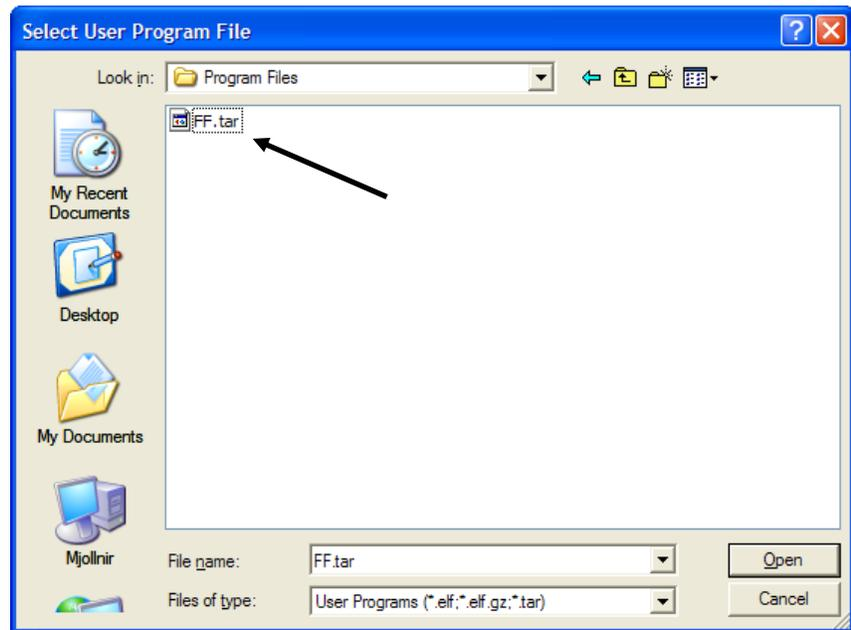

Figure 2. Select User Program File
5. Click **Browse** in the Download User Program File frame. The Select User Program File screen displays (see *Figure 2*).
CD-ROM.) As *Figure 2* shows, the screen lists all valid user program files with the .TAR extension: